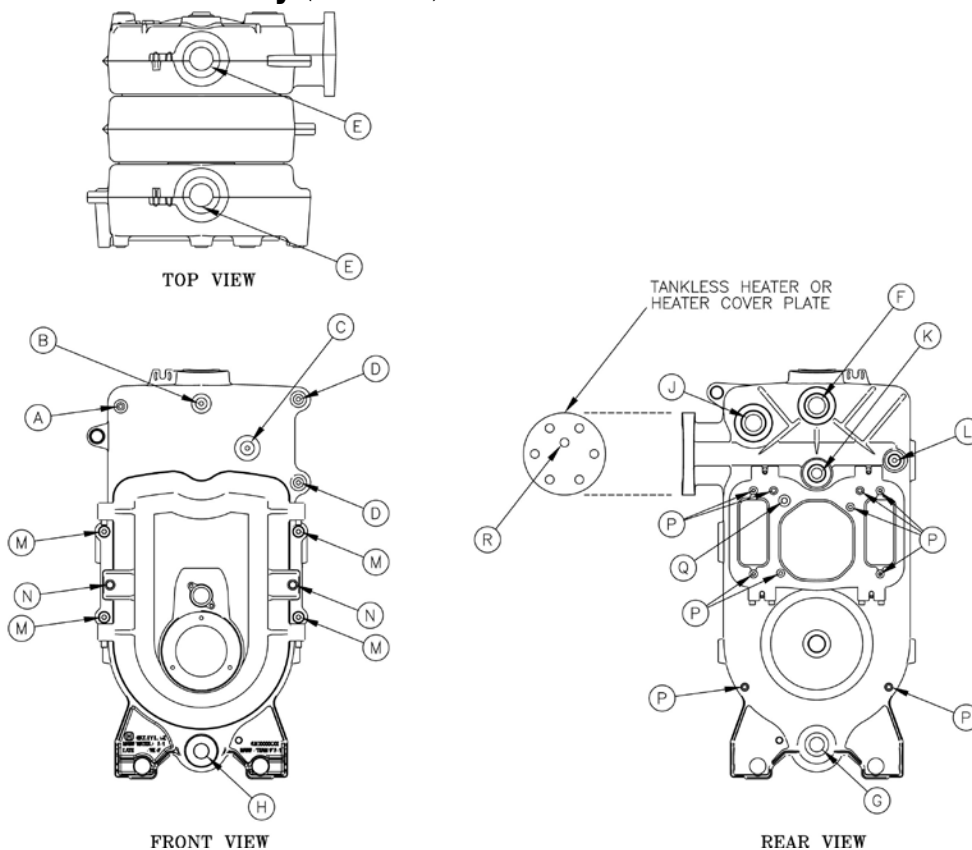

Figure 7: Purpose of Tappings and Bosses
See also Figure 7 "Purpose of Tappings & Bosses".
3. Locate rear panel two lower attachment bosses on rear section. See Figure 7 "Purpose of Tappings & Bosses".
3. Review and locate pressure limit tapping on front section. See Table 3 "Purpose of Tappings & Bosses" and Figure 7.
2. Install the probe into the appropriate front section tapping. See Figure 7 "Purpose of Tappings & Bosses".
2. Install the gauge glass using the two 1/2" NPT tappings to the right of the probe LWCO. See Figure 7 "Purpose of Tappings & Bosses".
3. Thread the pressure gauge into 1/4" NPT tapping of the front section. See Figure 7 "Purpose of Tappings & Bosses". Tighten with wrench applied to the square shank of the gauge.